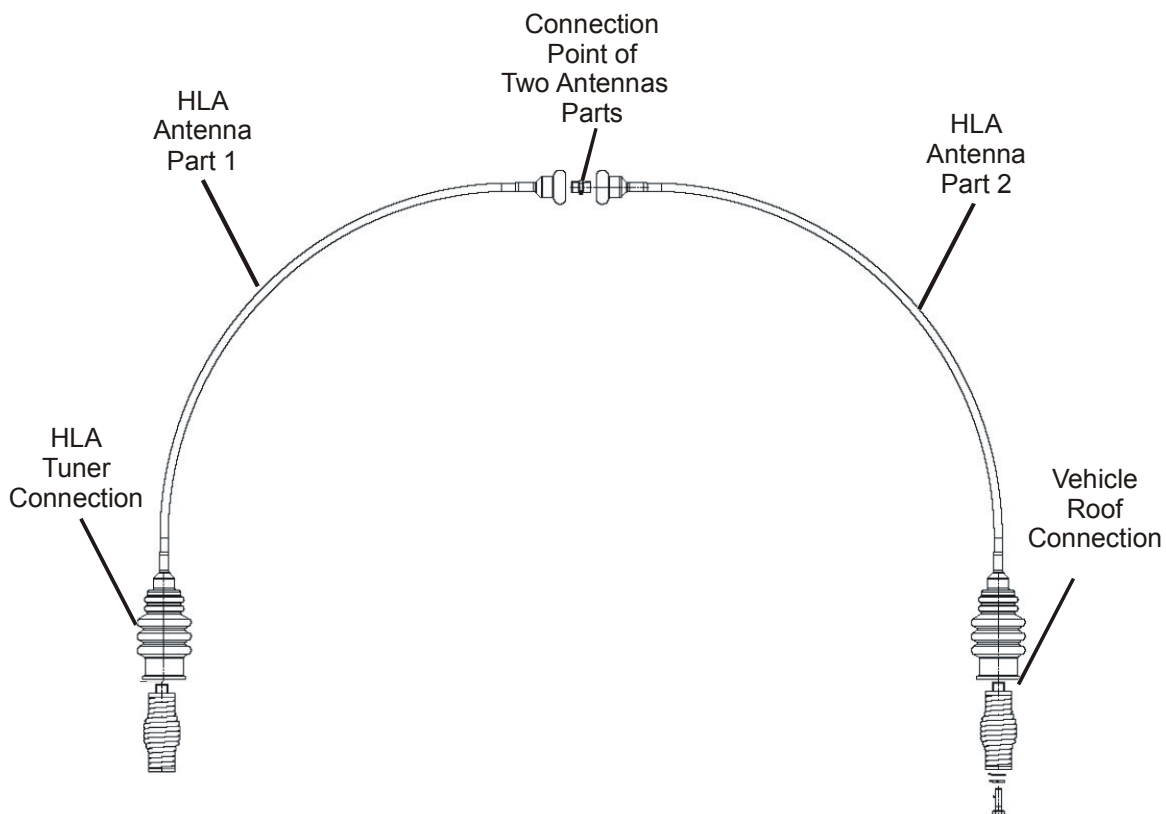

Figure 1-4. HLA R-1M Antenna General View
1.3.1 HLA R-1M ANTENNA (See Figure 1-4)